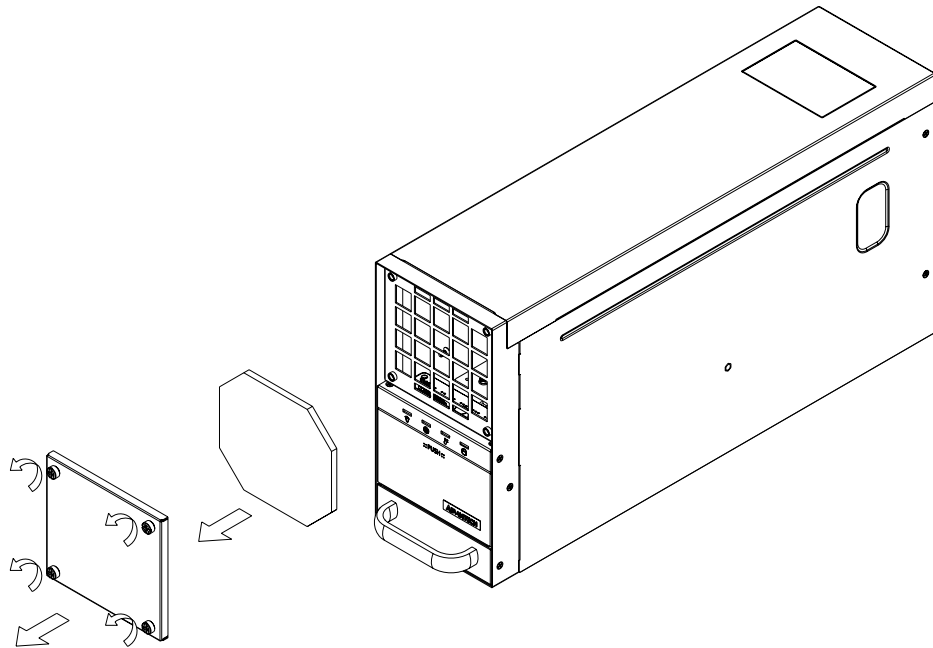

Figure 3.5 Replacing the filters
4. Replace them inside the unit and fasten the thumbscrews on the iron net (see Figure 3.5).